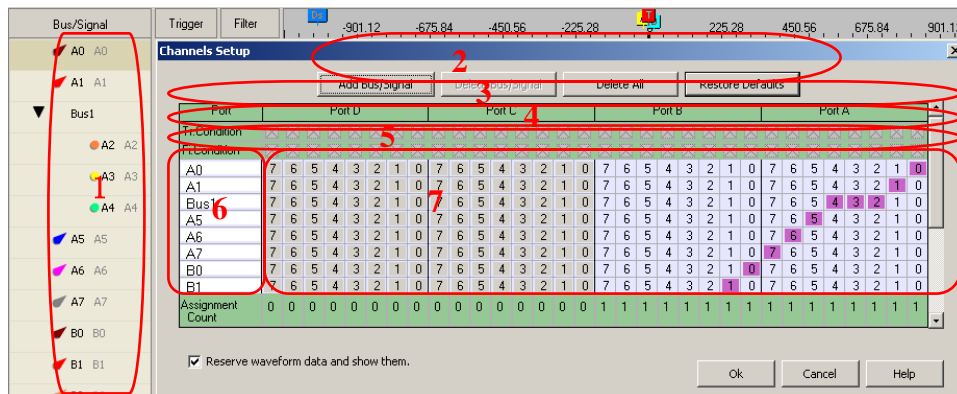

Fig 4-29 – Channels Setup Window
1. Delete Bus/Signal: Firstly highlight the Bus or channels on area 6 of Fig 4-29, then click **Delete Bus/Signal** to delete them.
2. Delete All: Click **Delete All** to delete all Bus/signals on area 6 of Fig 4-29.